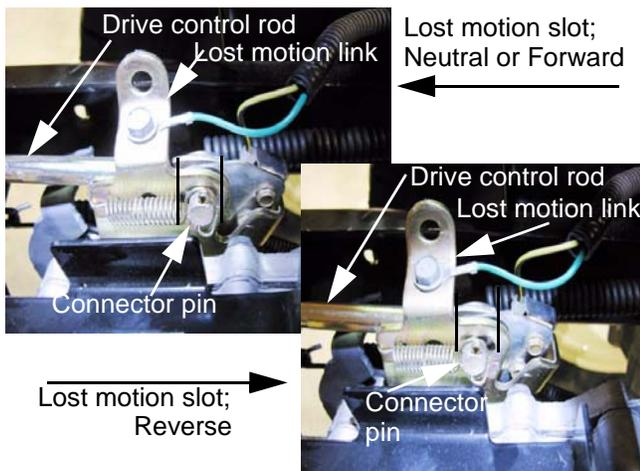

Figure 5.8
- 6b. Some lost motion is built into the linkage so that there is a "dead" range as the pedal moves from neutral to reverse. See Figure 5.8.